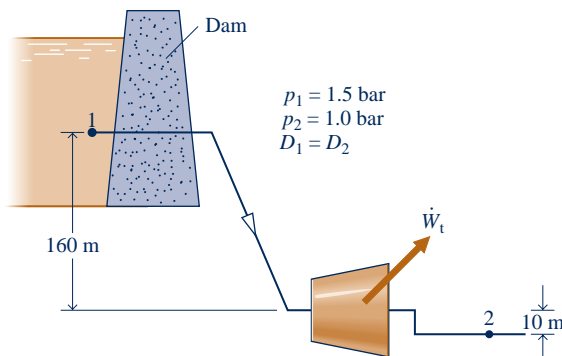

Fig. P6.184
- 6.184** As shown in Figure P6.184, water flows from an elevated reservoir through a hydraulic turbine operating at steady state. Determine the maximum power output, in MW, associated with a mass flow rate of 950 kg/s . The inlet and exit diameters are equal. The water can be modeled as incompressible with $v = 10^{-3} \text{ m}^3/\text{kg}$. The local acceleration of gravity is 9.8 m/s^2 .